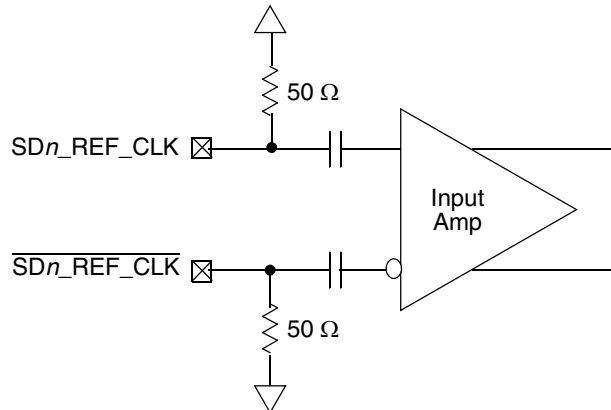

Figure 36. Receiver of SerDes reference clocks
- The $\overline{SD_REF_CLK}$ and SD_REF_CLK are internally AC-coupled differential inputs as shown in Figure 36. Each differential clock input ($\overline{SD_REF_CLK}$ or SD_REF_CLK) has a 50- Ω termination to $SGND_SRDS$ followed by on-chip AC-coupling.